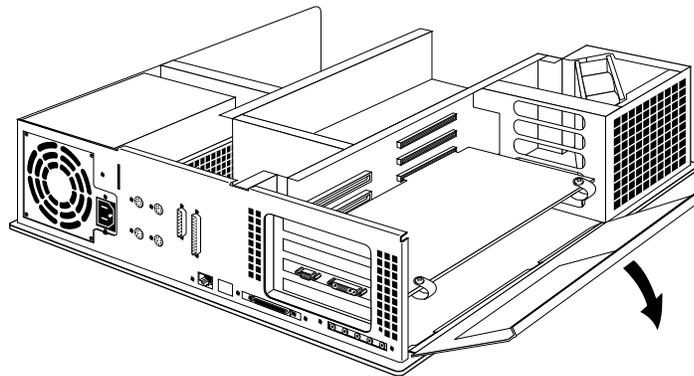

Figure 5-7 Opening the Metal Panel in Front of the Expansion Slots
1. Move the workstation or position yourself so that you are facing the expansion slots, as shown in Figure 5-7.